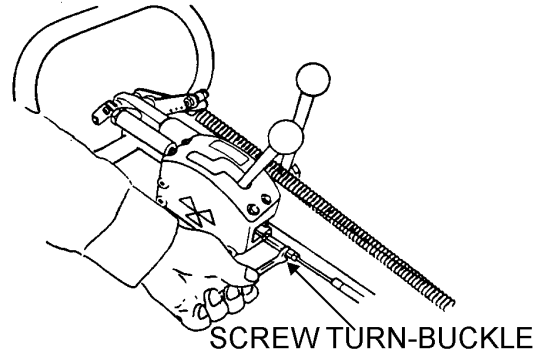

Figure 40. Adjusting the Turn-Buckle
3. If the machine moves forward, screw the turn-buckle clockwise. If the machine moves backwards, screw the turn-buckle counterclockwise (Figure 40).